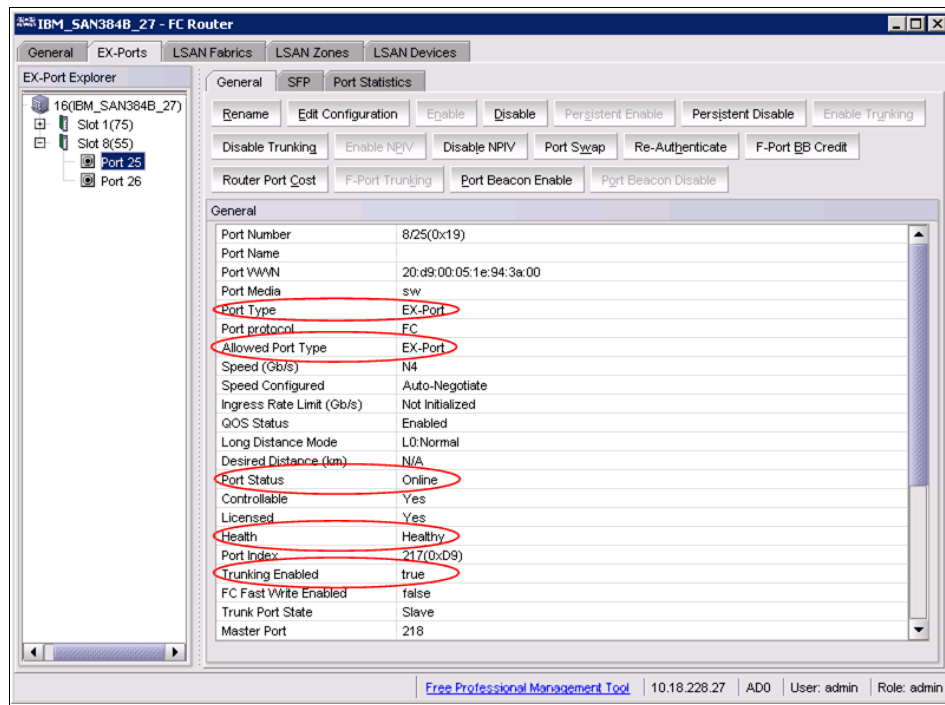

Figure 9-15 Checking EX\_Port status
10. Verify the Port status at the backbone. Check the fields connected to all your EX\_Ports, which are circled in Figure 9-15.